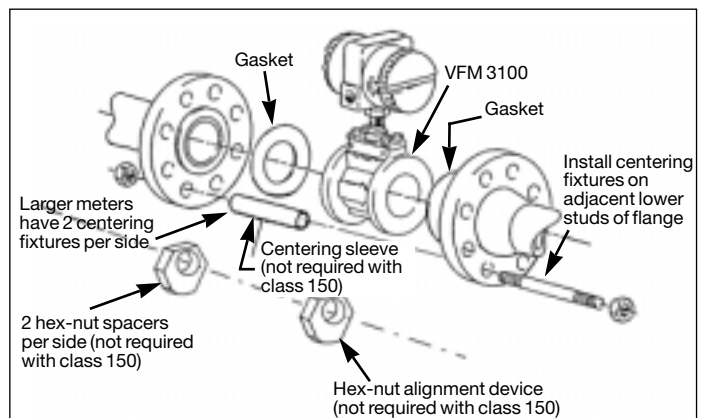

Figure 7. VFM 3100 W Centering (using Spacers OR Sleeves)
- See Figure 7. Insert the first stud through the downstream flange at one of the lower holes, through the centering sleeves or two hex-nut spacers, and then through the upstream flange. Place the nuts on both ends of the stud but do not tighten.